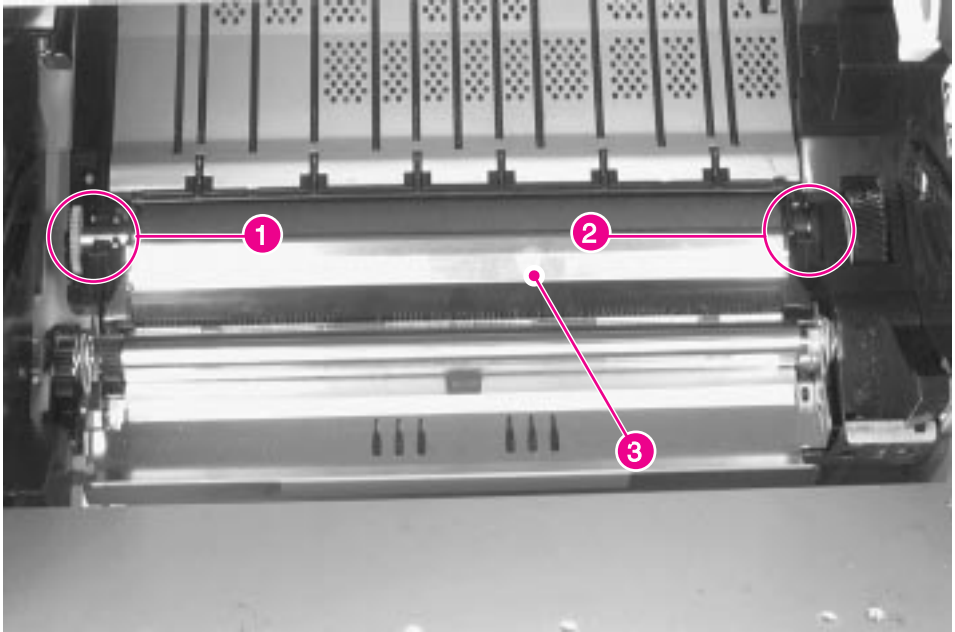

Figure 6-52 Transfer Roller Assembly
- 2 Remove the Transfer Roller Assembly (see figure 6-52 on page 219).
- Transfer Roller (see figure 6-52 on page 219)
- 2 Grasp the gear (figure 6-52, callout 1) on the left end, and carefully lift upward just enough to clear the retainer clip.
- 3 Slide the Transfer Roller Assembly to the left to release the shaft on the right end (figure 6-52, callout 2).
- 2 Hold the Transfer Roller wiper up (figure 6-52, callout 3) and slide the assembly to the right until the gear on the left end is in position.
- 4 Press the Transfer Roller wiper down (figure 6-52, callout 3) until the retaining clips snap into place.